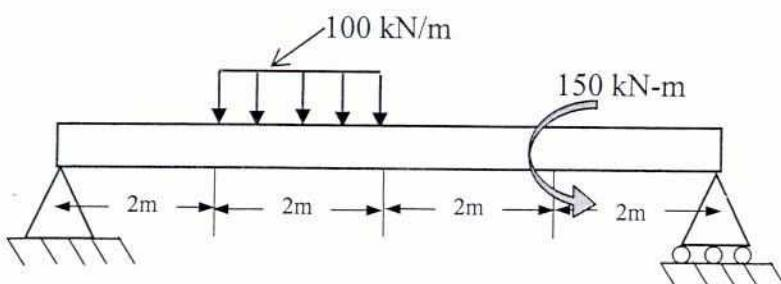

Fig. 5
- (b) The I-section with flanges of 80 mm x 20 mm and web of 160 mm x 20 mm is (10) subjected to a shear force of 60 kN. Draw the shear stress distribution diagram along the depth. Also, calculate the ratio of maximum shear stress to the mean shear stress.
- Q5 Compute the slopes at the ends and deflection at the midpoint of the simply supported beam shown in Fig. 5.